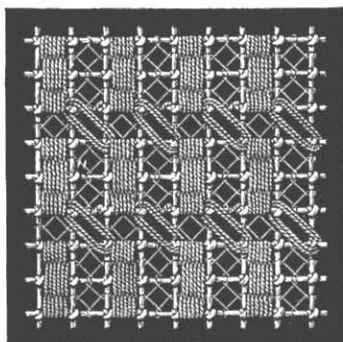

Fig. 47. Ground in darning and loop stitch.
**Ground in darning stitch and loop stitch** (fig. 47). — The darning stitches with which you begin the ground are worked in the coarse thread as well as the almond-shaped ones that connect them; the loop stitches are made in the finer thread.